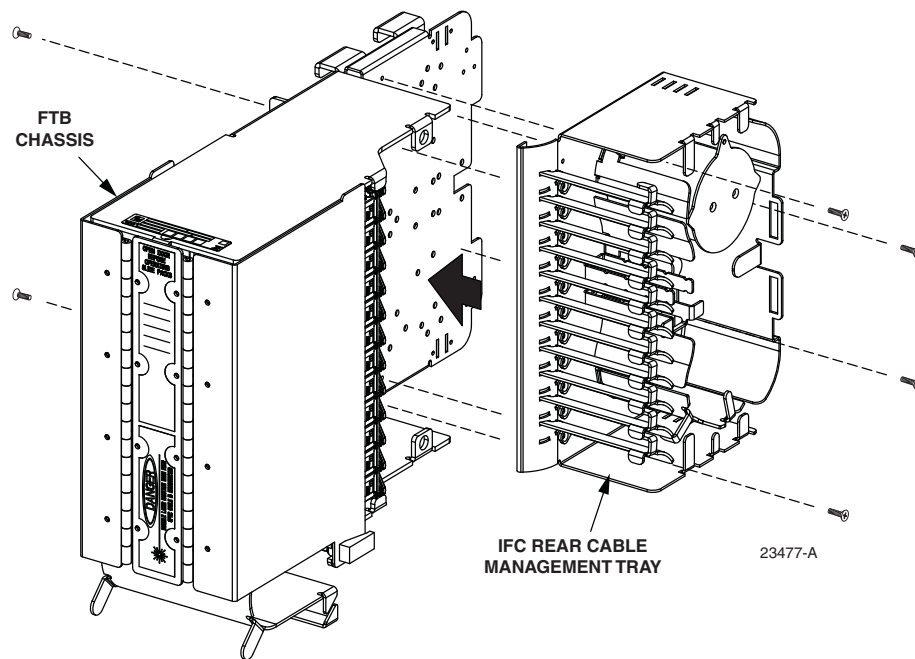

Figure 9. Installing the IFC Rear Cable Management Tray
2. Install the replacement cable management tray as shown in Figure 9. Secure the tray to the FTB chassis using the six #4-40 Phillips head screws removed in the previous step.